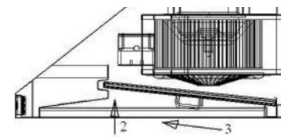

Figure 2
- Push the front end of the baffle filter up while keeping the back end stationary. (Step 2 in Figure 2)
- Slide the baffle filter towards the front end until it fits into the slot behind the LCD display. (Step 3 in Figure 2)